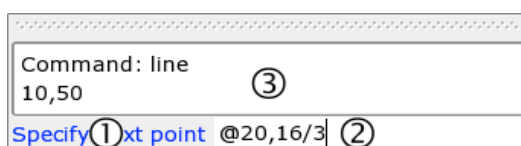

Figure 10: The Command Line of QCAD.
Figure 10 shows the command line of QCAD. It consists of the command line prompt (1), the command line input field (2) and the output area (3) that shows the command line history as well as potential errors, warnings, ...